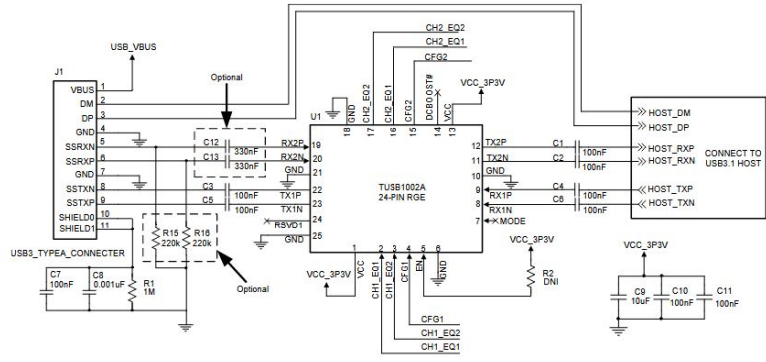

Figure 18. Host Implementation Schematic
2. 330 nF capacitors with 220 kΩ resistors as depicted in Figure 18. The purpose of 220 kΩ resistors is to discharge the capacitor within 250ms after a USB device is removed from the USB connector.